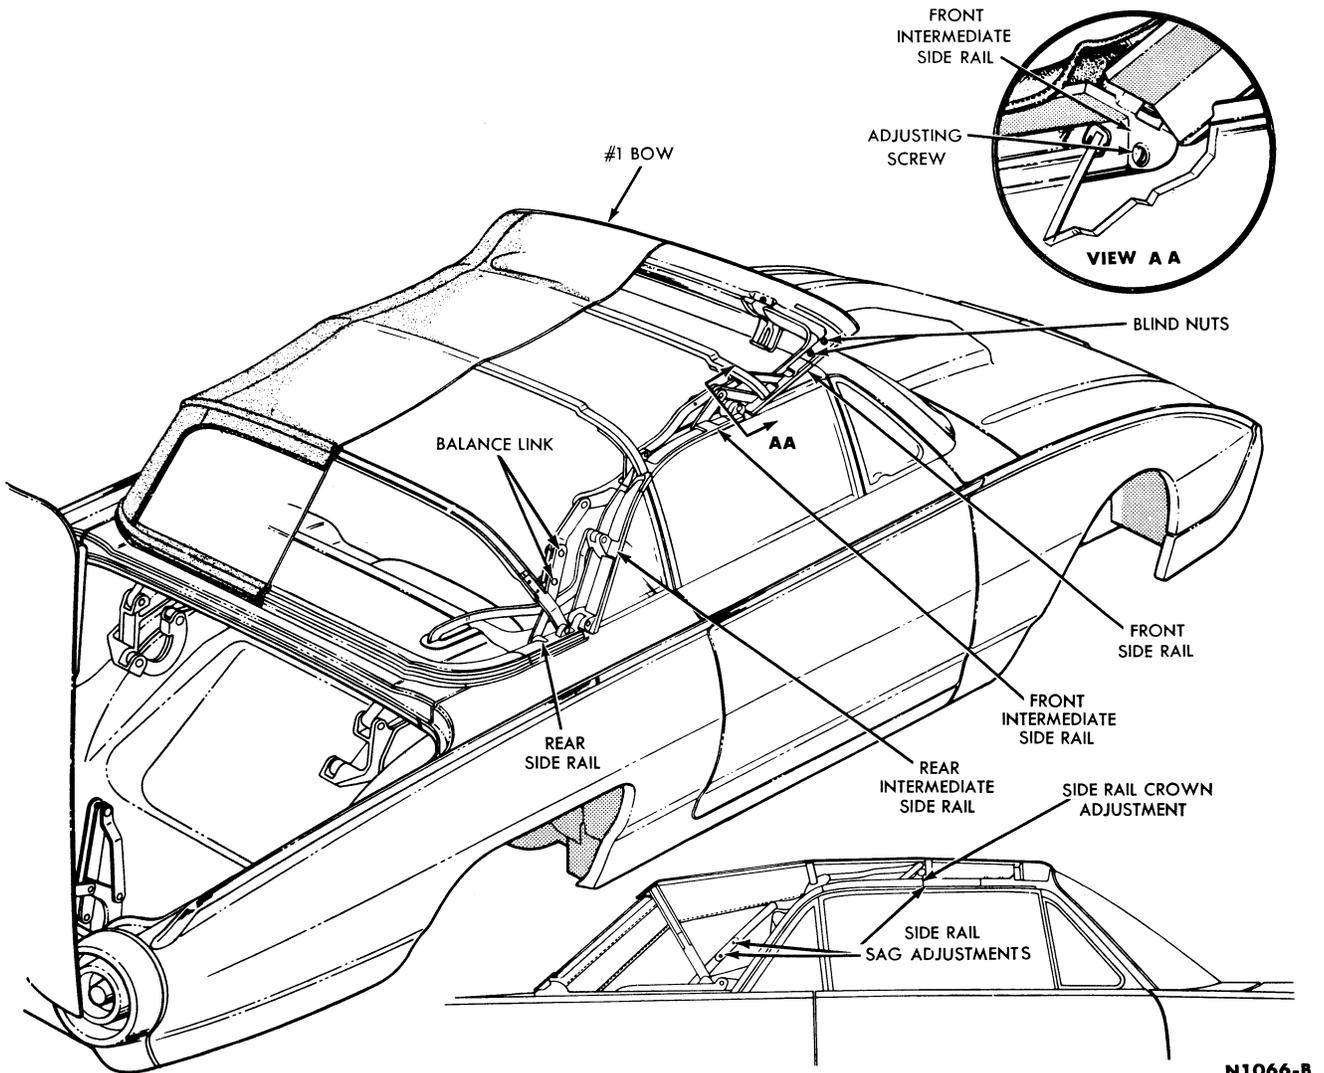

FIG. 25—Top Linkage
2. Adjust each front intermediate side rail set screw flush with the end of the rail (Fig. 25).
3. Loosen the balance link adjustment bolts (Fig. 25) at each side of the car.
4. Lengthen or shorten the balance link (Fig. 25) to obtain a parallel condition between the front side rail, the front intermediate side rail, and the top of the door window frame.
5. Tighten the balance link adjustment bolts. To eliminate a crowning condition, adjust the front intermediate side rail set screw (Fig. 25).
2. If the top stack needs vertical adjustment for clearance, loosen the balance link adjustment bolts shown in Fig. 25.